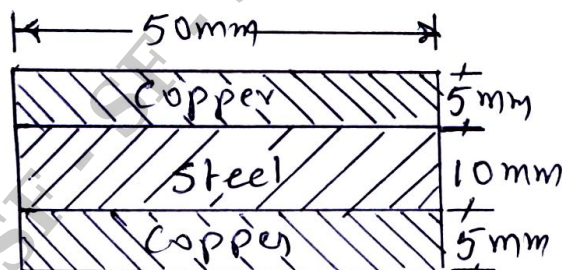

Fig.Q.2(c)
- b. Derive the relation between Young's modulus (E) and modulus of rigidity (G) in the form $E = \frac{9KG}{3K + G}$. (06 Marks)
- c. A compound bar is made of central steel plate 50mm wide and 10mm thick to which copper plate of 50mm wide and 5mm thick are connected rigidly on each sides as shown in Fig.Q.2(c). The length of compound bar is 1000mm at room temperature. If the temperature is raised by 100°C determine stresses in each material and change in length of compound bar. Assume $E = 200\text{GPa}$, $E_C = 100\text{GPa}$, $\alpha_S = 12 \times 10^{-6}/^\circ\text{C}$ and $\alpha_C = 18 \times 10^{-6}/^\circ\text{C}$. (08 Marks)